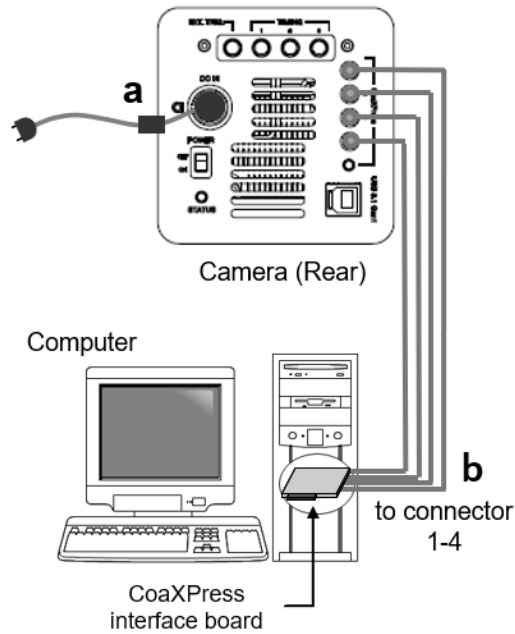

Figure 7-1
1. Connect the equipment as shown in Figure 7-1 or 7-2 before operating of the camera.